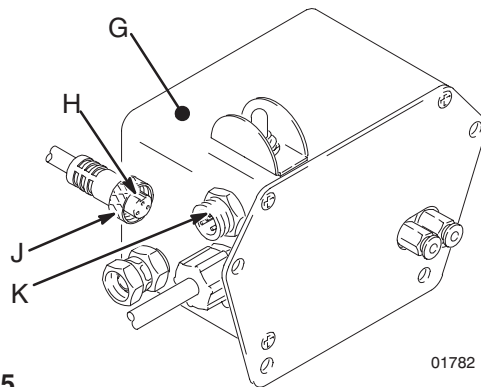

Fig 5
3. Unscrew the collar (J) and disconnect the power supply cord from the control (G). See Fig 5.
7. Plug in the power cord so the notch (H) in the collar (J) and the tab (K) in the socket align. Screw on the collar. See Fig 5.